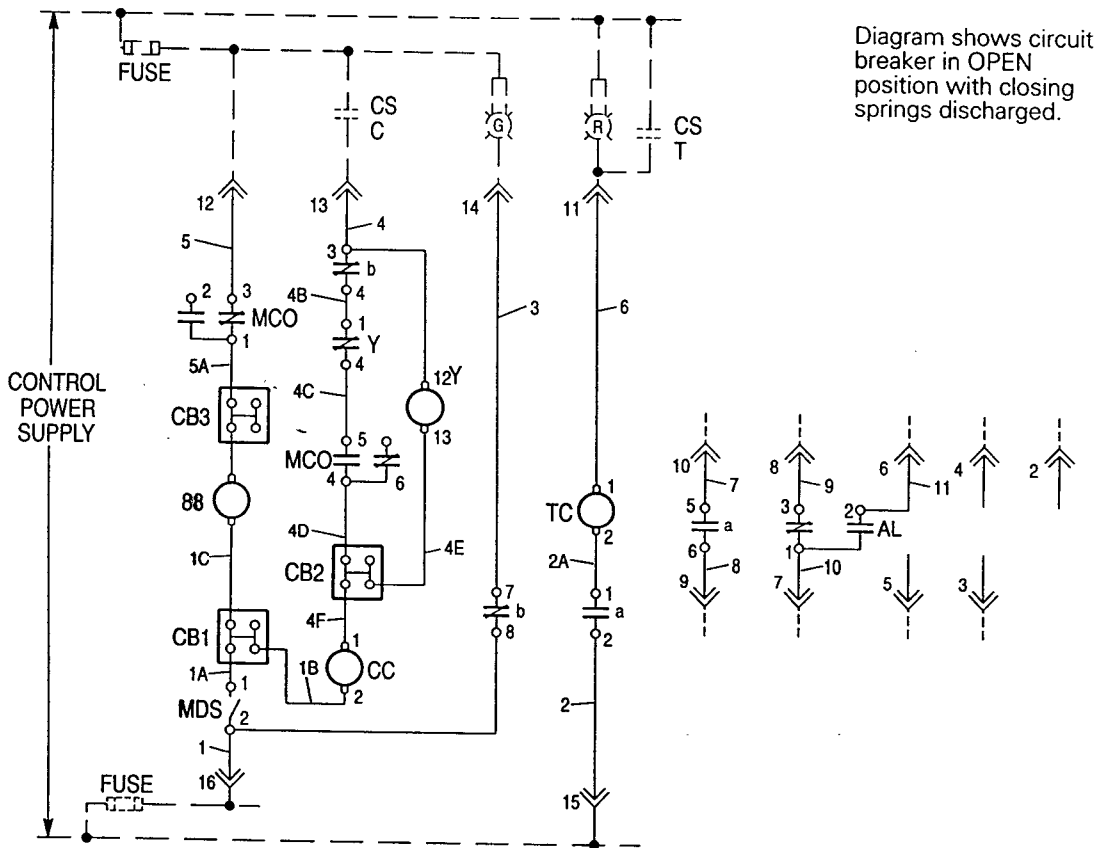

Figure 3. Typical Schematic — Electrically Operated Circuit Breakers.
Tripping	Push in manual trip rod (94) OR If shunt trip is provided, operate external control switch (CS/T) to trip or open position. (See Figure 3 .)